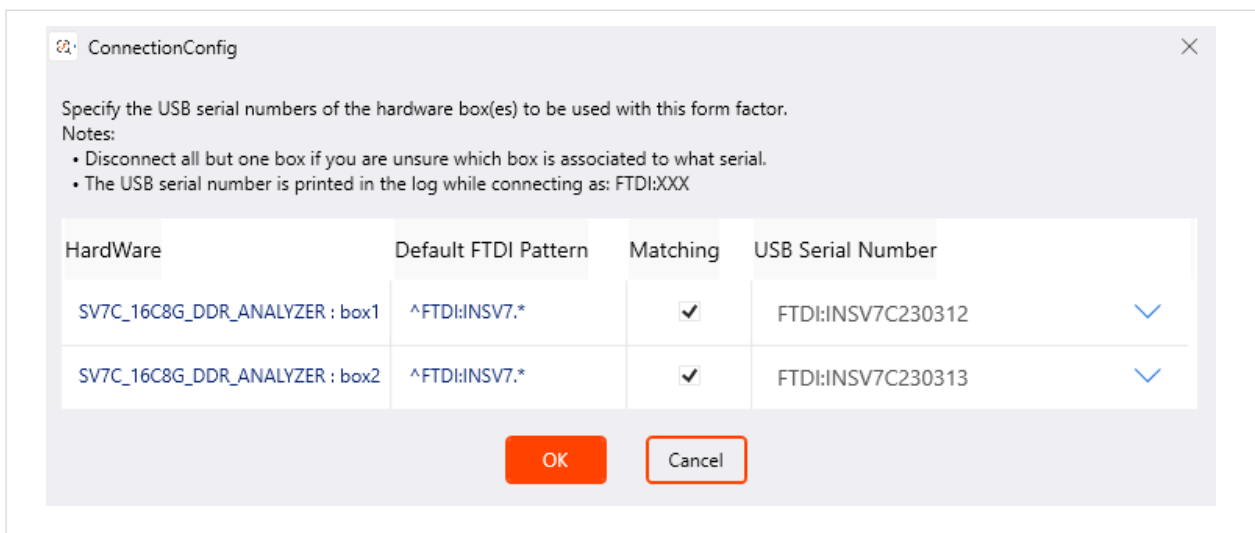

Figure 2: ConnectionConfig tool.
2. Connect the USB cables from your PC to both SV7C boxes and turn the boxes on. Open the "ConnectionConfig" tool (IESP -> ConnectionConfig). Set the serial numbers for box 1 and box 2 accordingly as in Figure 2 below. The serial number can be found underneath the SV7C box. It is important to externally label the first SV5C unit as "Box 1" and the second unit as "Box 2". This labelling must be kept consistent during subsequent usage.